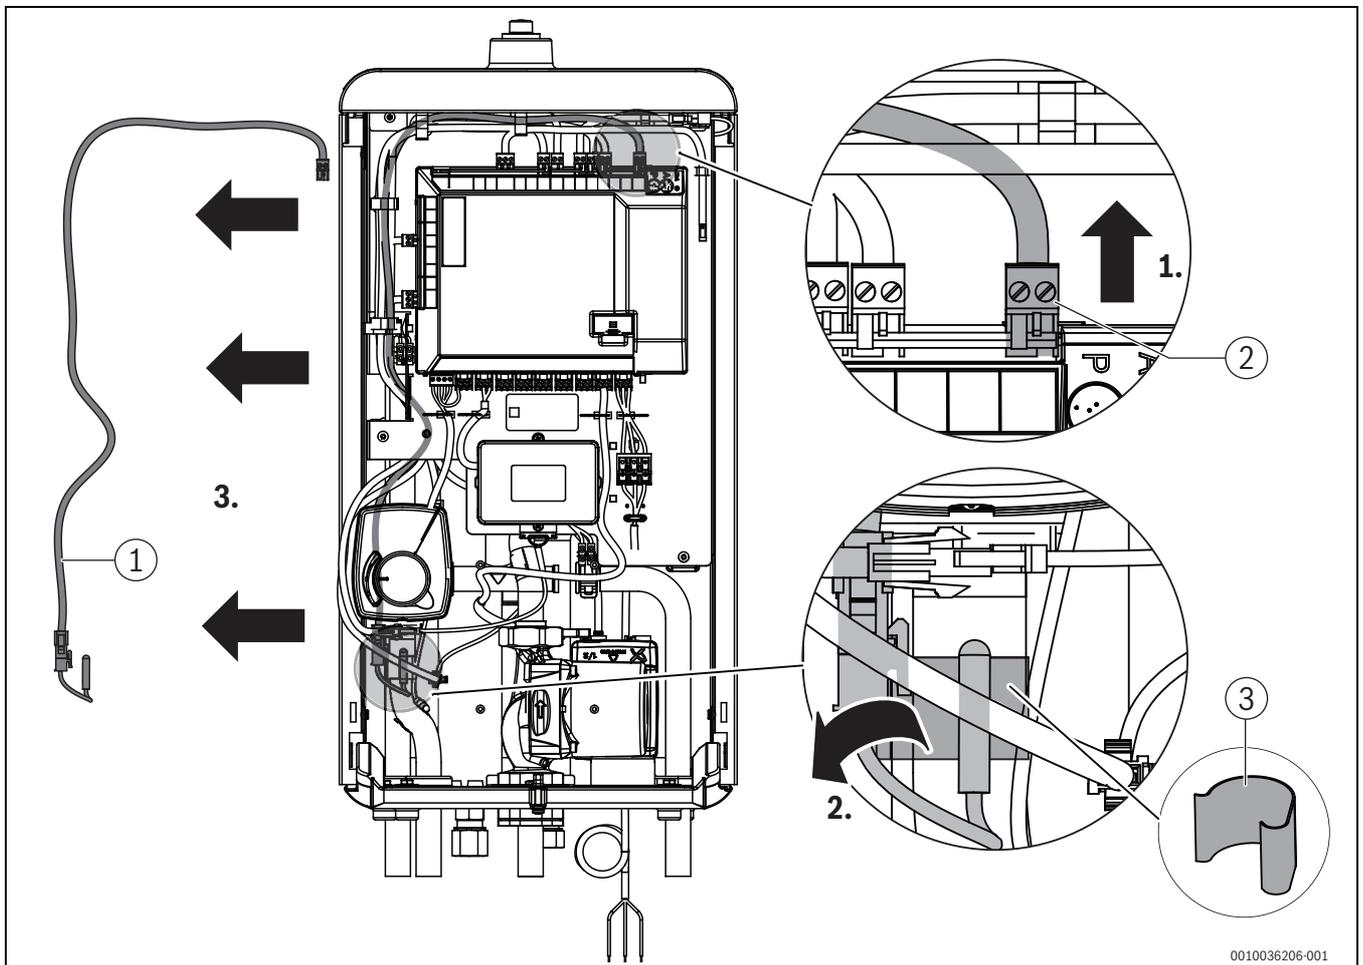
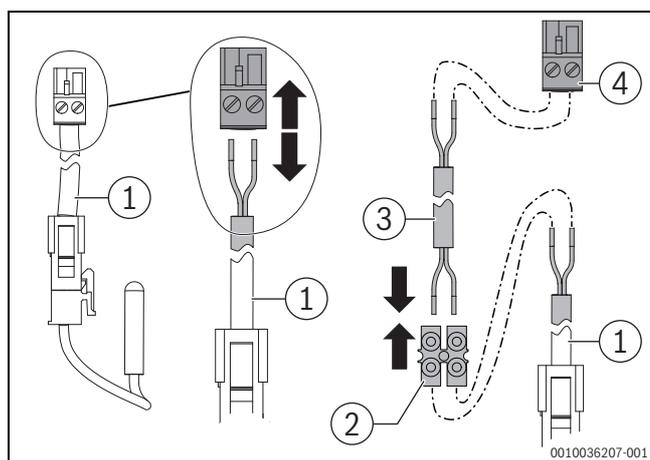

Fig. 33 Remove the flow temperature sensor with cable
Fig. 34 Extending the flow sensor cable
If the flow temperature sensor is installed outside the indoor unit on the buffer cylinder or downstream of the 3-way valve (e.g. when using a heating circuit set), it must be completely removed from the indoor unit (→ Fig. 33) and if necessary extended using a suitable extension cable (H03VV-F 2x0.5 mm2) of corresponding length, as described below (→ Fig. 34).
- ▶ Remove the plug from the cable (→ Fig. 34).
- ▶ Install the plug on the extension cable (→ Fig. 34) and plug into the T0 connection.
- ▶ Connect the extension cable to the cable of the temperature sensor using a connection terminal (→ Fig. 34).